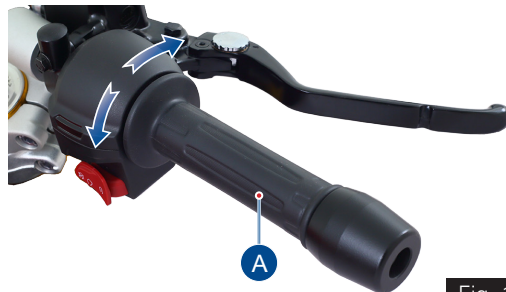

Fig. 18
Throttle Twist Grip (ref. Fig. 18)
- Throttle grip spring back to the initial position (idling speed) when released. (ref. Fig. 18)